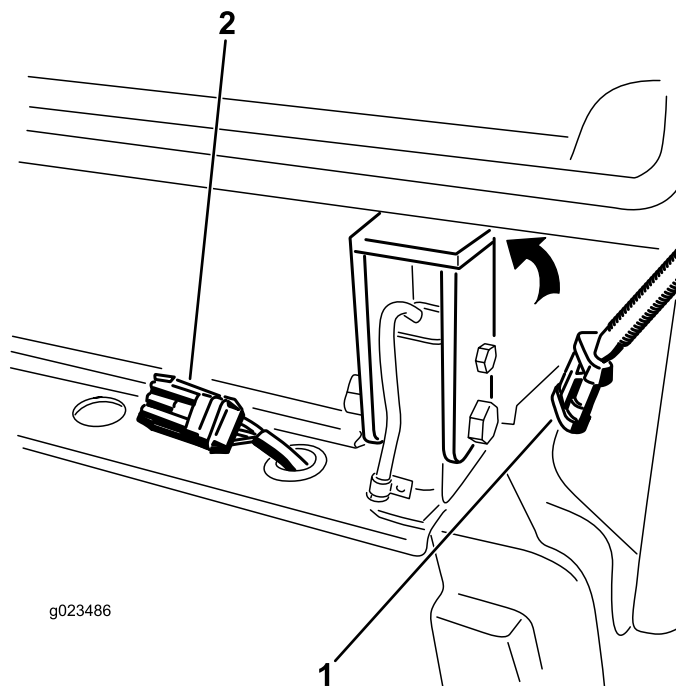

Figure 36
30. Remove the cap and plug the cab wire harness connector into the harness on the rear-frame mount (Figure 36).